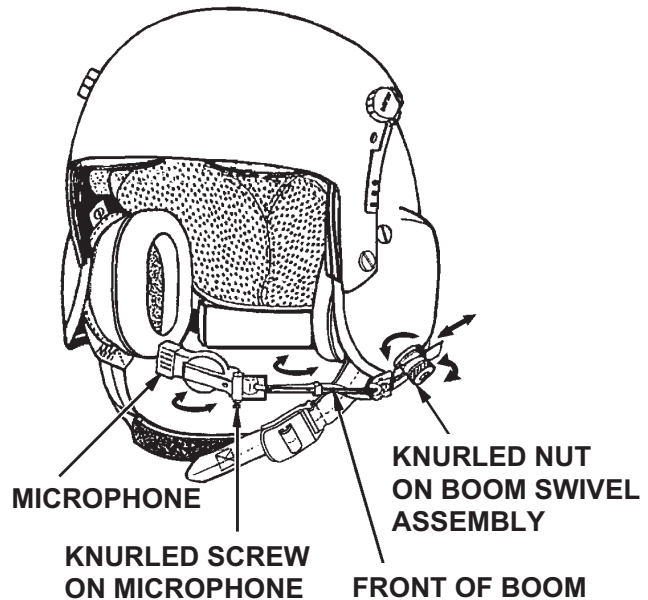

Figure 3-5. Microphone Adjustment Points
3. Referring to Figure 3-5, adjust the microphone to the proper operating position as follows: